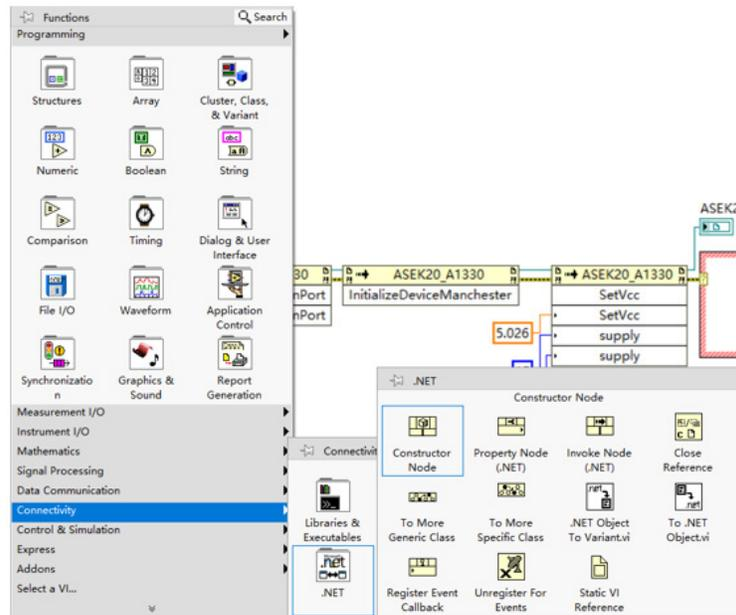

Figure 4
1. Open the LabVIEW window, click the 'Connectivity' section of 'Functions', then click the '.NET' icon; see Figure 4.